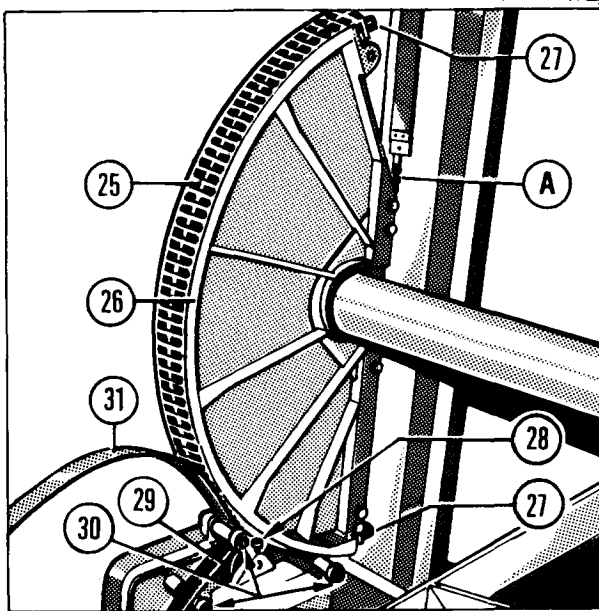

Fig. 16
- Check the condition of the chain (Fig. 16/item 25). The chain links should not show any traces of wear or damage.
- Check chain tension. The chain should be immobile on the segment (Fig. 16/item 26). Retighten if necessary. Therefore loosen the lock nut and tighten clamping stud as required. Retighten the lock nut. (Fig. 16/item 27).
- Check condition of cogwheels (Fig. 16/item 29) for traces of wear or damage.
- Check set screw on shaft (Fig. 16/item 28) for proper seat.
- Check the shoulder bolts of the guide rollers (Fig. 16/item 30) for the segment cover upon proper seat.
- Check the segment cover (Fig. 16/item 31) and the spring for wear or damage. Replace if necessary.
- Reattach the segment cover at point A (Fig. 16).